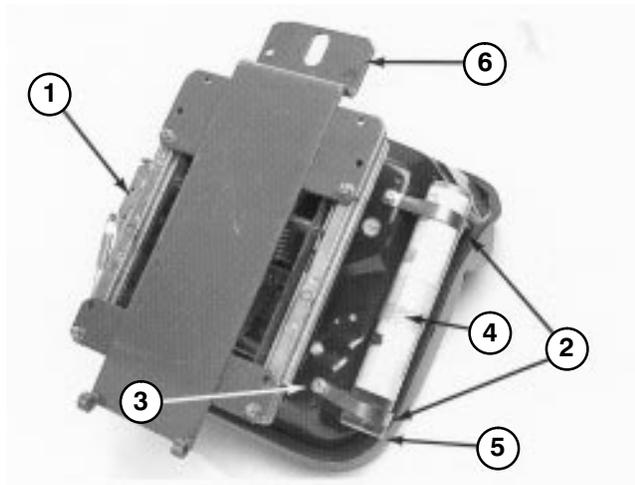

Figure 8
10. Mount seat suspension assembly to (4) capscrews on seat bottom and secure with (4) lockwashers, flatwashers and nuts (Fig. 8).
12. Loosely secure (2) R-clamps to right side of seat bottom with (2) capscrews and flatwashers supplied in kit (Fig. 8). Install manual tube into R-clamps and tighten capscrews (Fig. 8).
13. Mount seat support over four threaded studs at the bottom of seat suspension assembly and secure in place with flangenuts (Fig. 8).